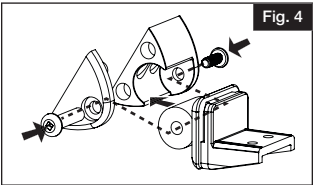

Fig. 4
- a. Place top and bottom rail on a smooth, flat and clean surface. Then, align the top and bottom rails so that the ridges inside the rails are oriented on the same side (Fig. 4).
- Cut rails to length (Fig. 4).
- Align panel on desired angle and mark the top rails (Fig. 4) and bottom rails (Fig. 5).
- b. For the top rail, cut the panel directly on the marks made in Step 3 (Fig. 4).